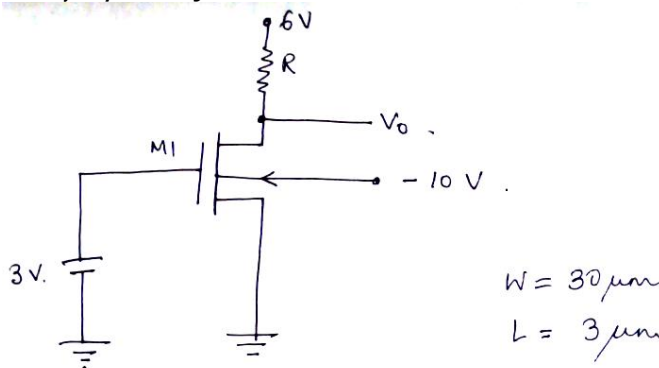

Fig.1
- (c) In the circuit shown in Fig.1, determine the output voltage if $R=15\text{ k}\Omega$, also, calculate the maximum value of R to keep $M1$ operating in the saturation region. Given, $V_{T0}=0.75\text{V}$, $\gamma=0.4\text{V}^{1/2}$, surface potential at strong inversion, $\phi=0.6\text{V}$, $K=\mu\text{Cox}=24\mu\text{A}/\text{V}^2$. Symbols have their usual meanings.